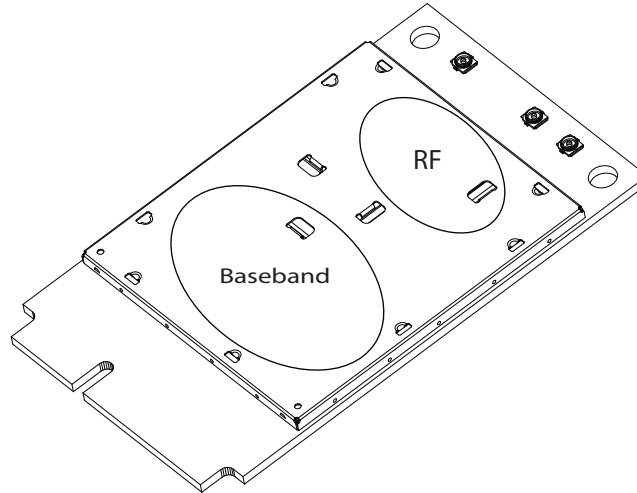

Figure 7-4: Shield locations (Top view)
Specific areas requiring heat dissipation are shown in Figure 7-4:
- Monitor temperature on the underside of the module. Attach thermocouples to the areas indicated in Figure 7-4 on page 54 (Baseband, RF).